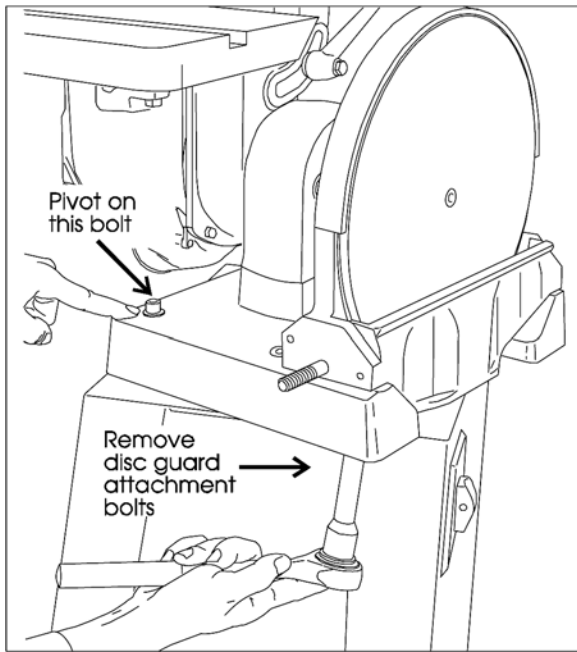

Figure 11: Rotating the machine casting to remove the disc guard bolts
6. Remove three of the base mounting bolts, then loosen the fourth bolt slightly. This allows you to rotate the machine on the machine base (See Figure 11).
7. Remove the two bolts, underneath the machine casting, that secure the disc guard to the casting (See Figure 11).